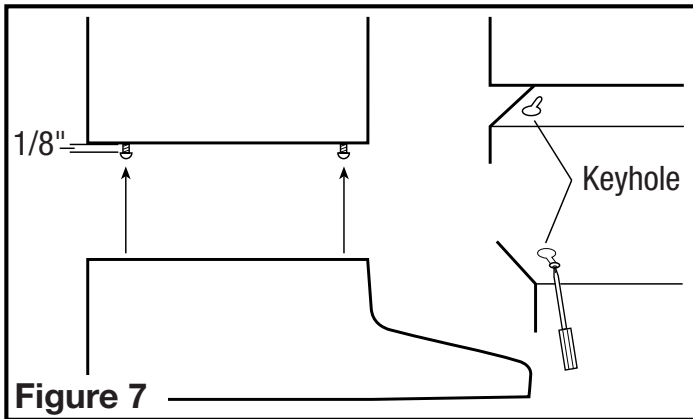

Figure 7
1. Install the 4 mounting screws at the previously marked locations. Leave approximately 1/8" clearance. Slide the hood in place through the keyhole slots and align the front of the hood so that it is flush with the front of the cabinets. Tighten all screws securely (Figure 7).